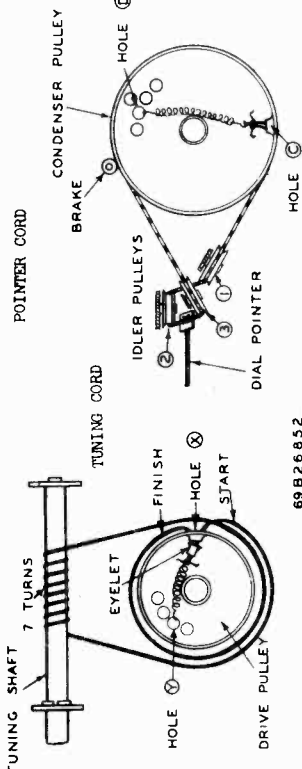

Figure 2
5. Thread one end of cord through hole (X) in drive pulley and with an ordinary paper clip fasten to tuning control bracket so that cord will stay in place.
6. In a clockwise direction, wind cord one half turn around drive pulley and up to tuning shaft. (See Fig. 2).
7. Route cord 7 turns around tuning shaft as shown in Fig. 2 and down to drive pulley.
8. Continue in a clockwise direction, one full turn to hole (X).